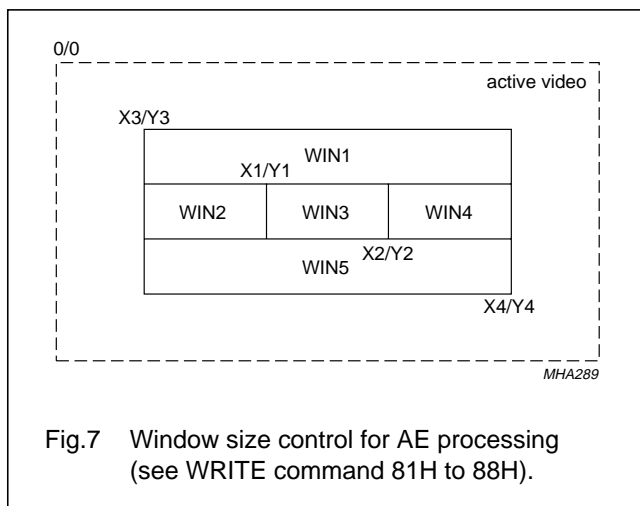

Fig.7 Window size control for AE processing (see WRITE command 81H to 88H).
2. For auto exposure processing different windows in the active video field are taken with different weighting factors. The coordinates of the five windows are set according to Fig.7. The resolution is 1 bit ≡ 16 pixel in x-direction and 1 bit ≡ 8 lines in y-direction.